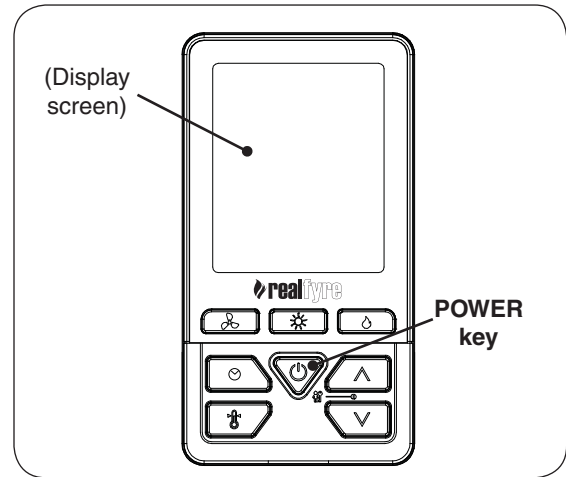

Fig. 30-1 Remote transmitter detail
1. Ensure the pilot is burning and the glass panel is re-installed. Locate the remote transmitter and press the UP or DOWN key to wake up the remote. Then press the **POWER** key (see Fig. 30-1). The burner system will ignite.